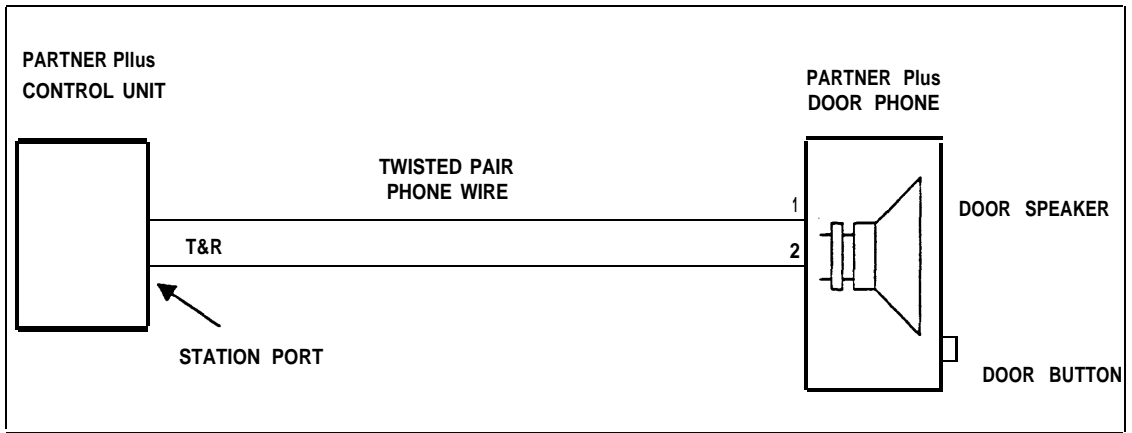
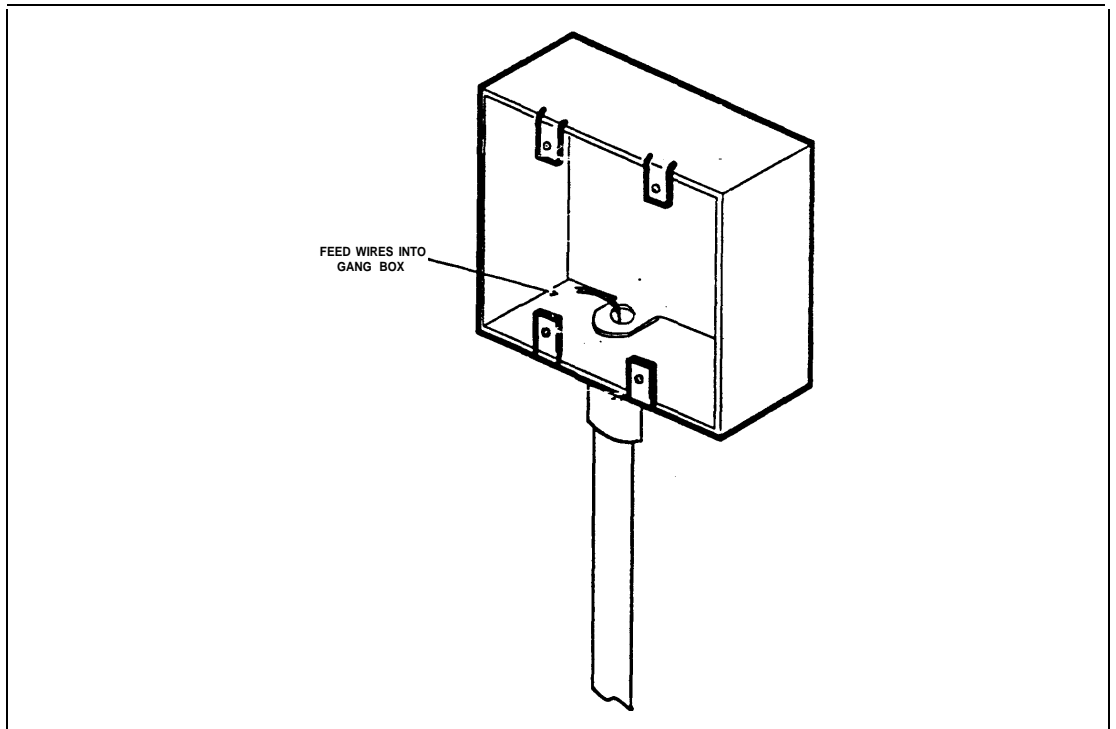
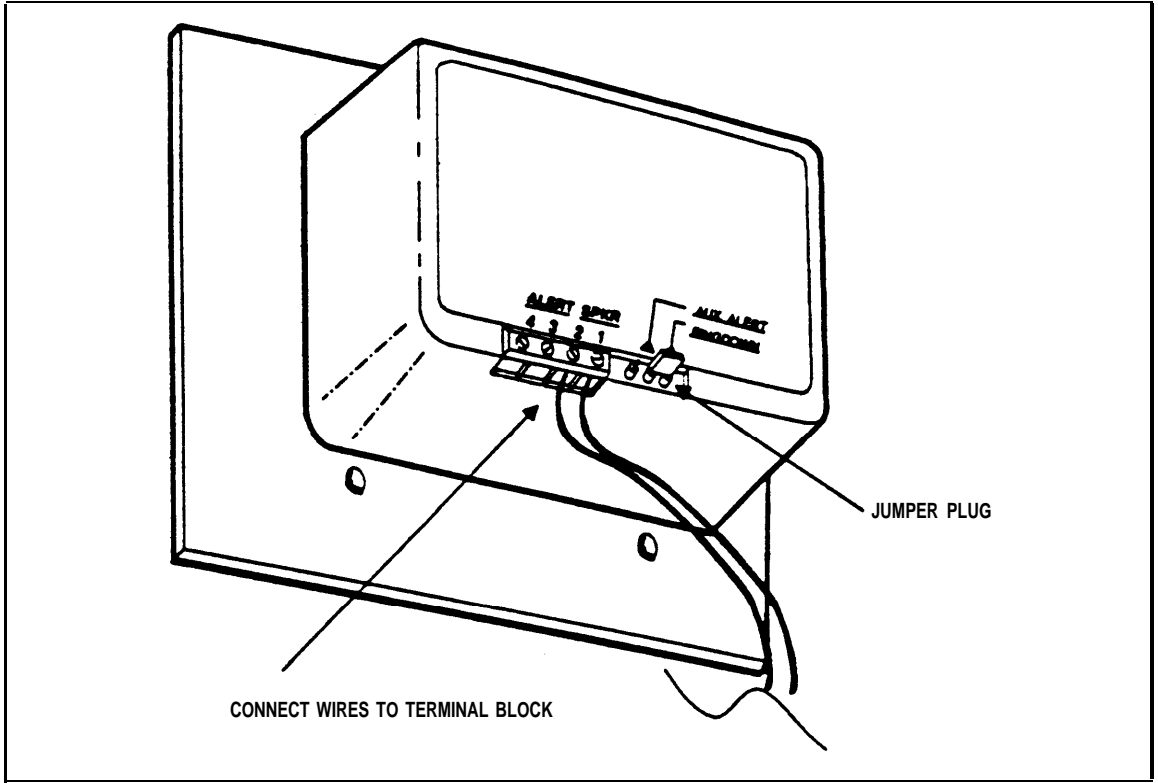

Figure 2-4. PARTNER™ Plus Wiring Diagram
Figure 2-5. Feed Wires Into Gang Box
Figure 2-6. Connect Wires to PARTNER™ Plus Door Phone Terminal Block
The jumper plug on the back panel of the PARTNER™ Plus Door Speaker (see Figure 2-6) must be in the RINGDOWN position for proper operation.
The PARTNER™ Plus Door Phone back panel has two sets of terminals; one set is labeled ALERT the other labeled TIP/RING (refer to Figure 2-6). The TIP/RING terminals connect to your PARTNER™ Plus telephone system and must use twisted pair phone wire. See Figure 2-4 for wiring diagram. Follow the steps below:
2. Route wires through conduit (if necessary) and feed into double-gang outlet box. See Figure 2-5.
3. Cut wires, leaving at least six (6) extra inches for connection to PARTNER™ Plus Door Phone Terminal strip.
5. Loosen each of the terminal block screws and insert exposed wire ends into appropriate terminal block locations. Tighten terminal block screws (see Figure 2-6). Ensure wire connections are correct before continuing.
6. Place the jumper plug in the position shown in Figure 2-6 (factory default setting). Program your PARTNER™ Plus telephone system for the phone number(s) to be called when the PARTNER™ Plus Door Phone goes off-hook.